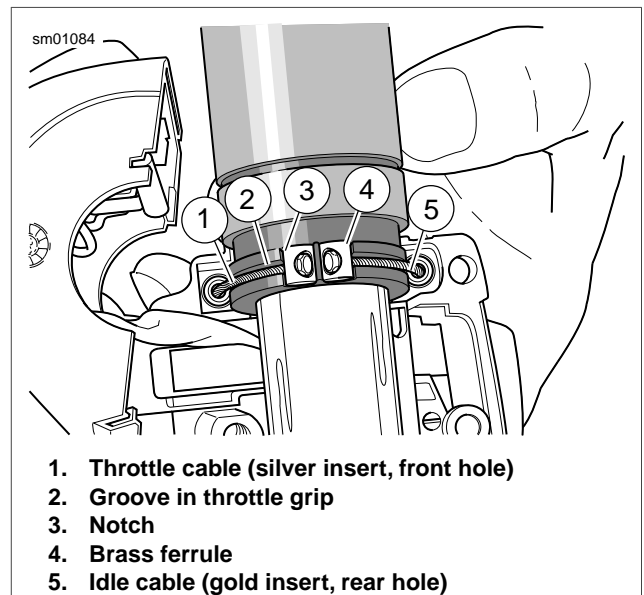

Figure 8-83. Throttle Cable Attachment
5. See Figure 8-83. Position lower switch housing beneath the throttle control grip. Install the brass ferrules (4) onto the cable so that the end fittings seat in the ferrule recess. Seat the ferrules in their respective notches (3) on the throttle control grip. Verify that the cables are captured in the grooves (2) molded into the grip.